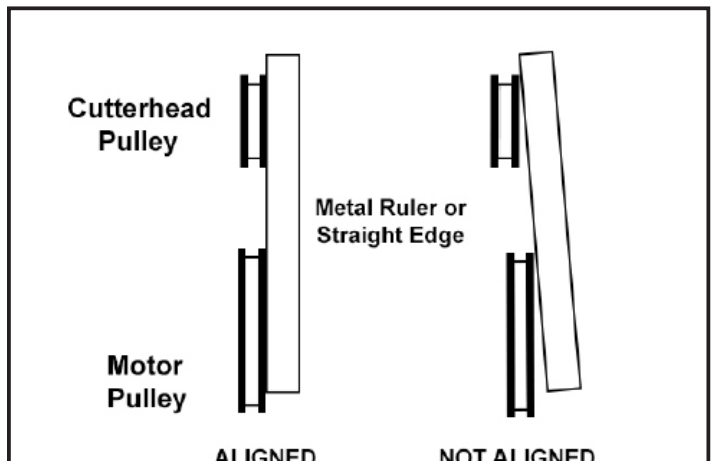

FIG.5.3.2
- Using a straight edge (Fig.5.3.2.) align the face of the cutterhead pulley to the motor pulley by sliding the motor in the appropriate direction.